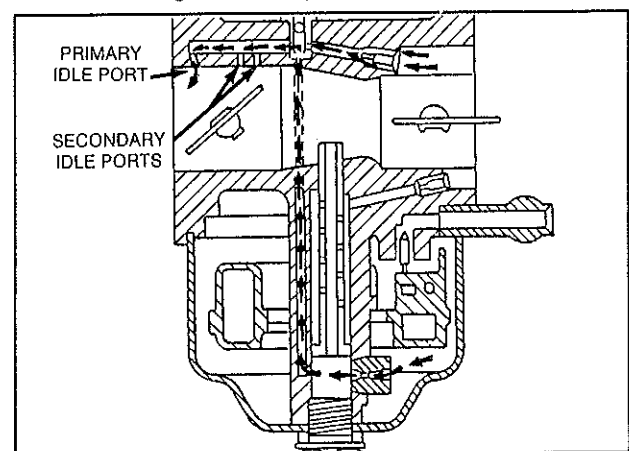

Fig. 5 - Part Throttle Operation
5. As the throttle valve opens, engine speed increases. The air/fuel mixture flow increases and flows out of the primary and secondary idle ports, Fig. 5.